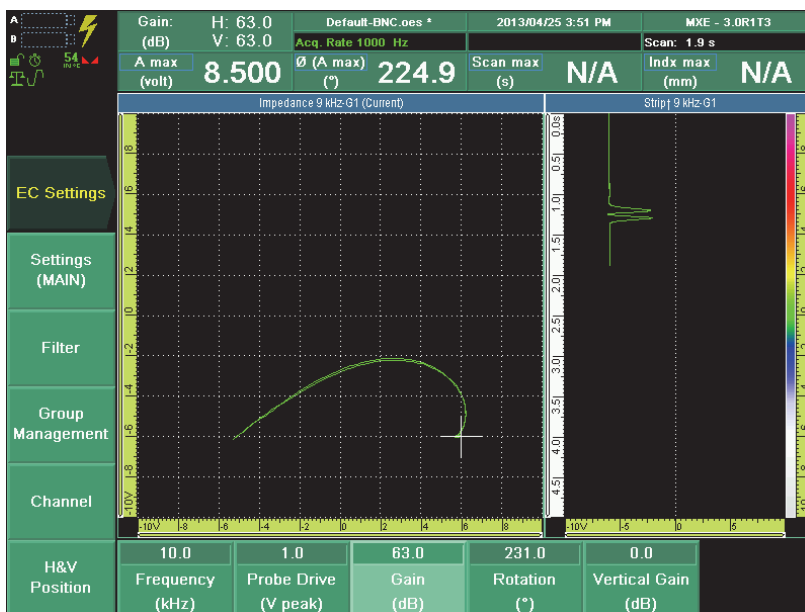

Figure 9-35 Configuring the Frequency, Gain, and Rotation parameters for mixing frequency 1
- Select **Frequency (kHz)**. In this example, the **Frequency (kHz)** value is set to 10.0 (see Figure 9-35 on page 169).
the Accept key to confirm. In this example, the **Gain (dB)** value is set to 63.0 (see Figure 9-35 on page 169).